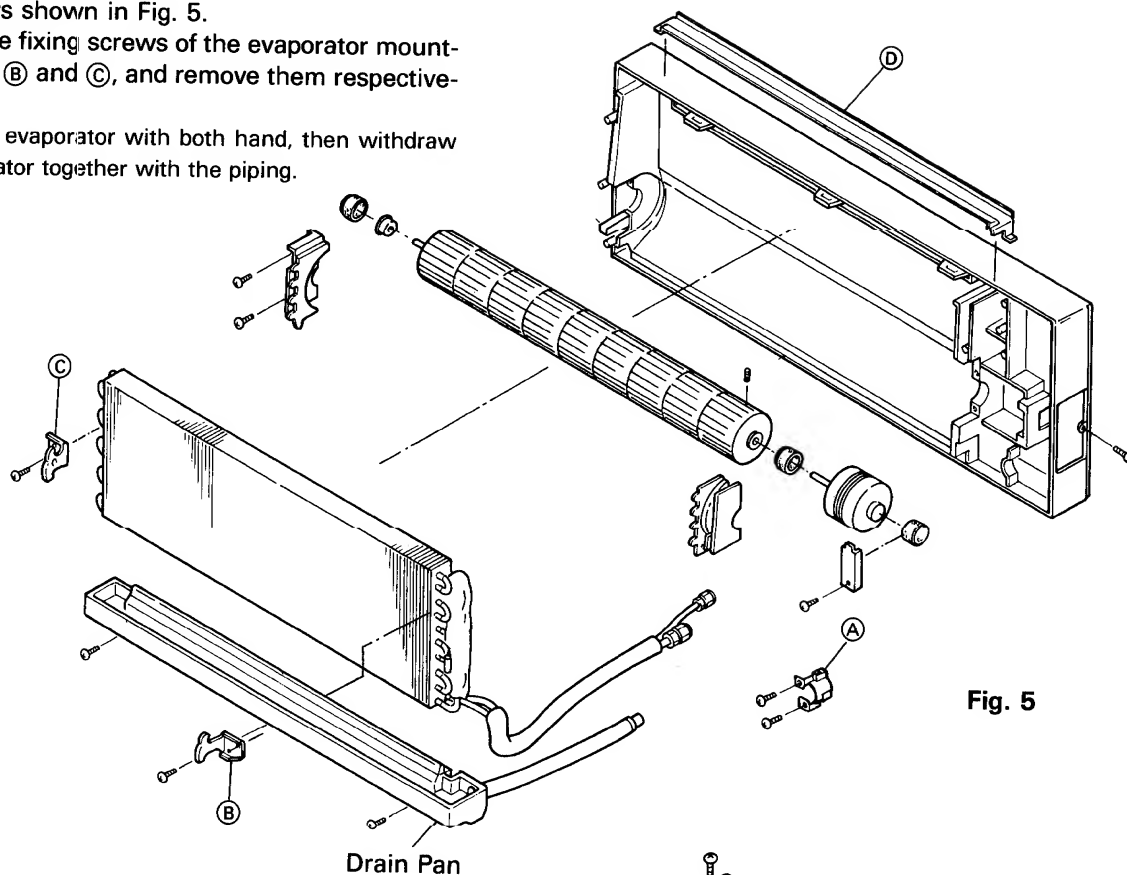

Fig. 5
- 2) Remove the refrigerant piping holder (A).
- 3) The drain pan can be pulled out after removing the screws shown in Fig. 5.
- 4) Loosen the fixing screws of the evaporator mounting plates (B) and (C), and remove them respectively.